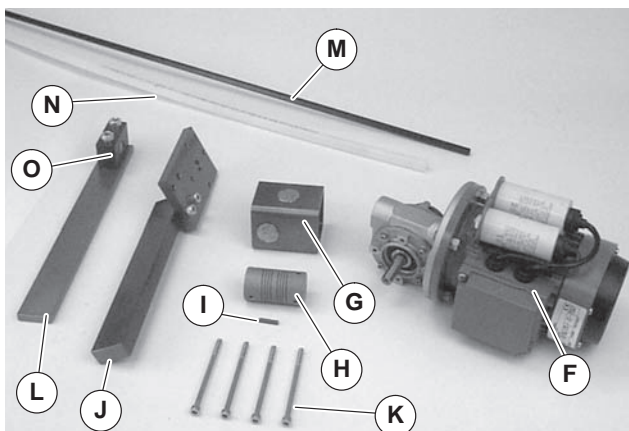
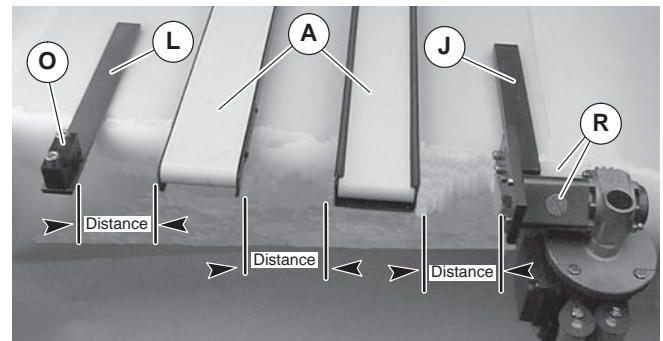

Figure 2
Figure 8
1. Gather components (Figure 2)
- Measure distance between motor mounting plate (Q) and bearing block (O).
- Cut hex shaft (Figure 2, item M) to measured distance plus 2-1/8" (54 mm).
- Align conveyors between gearmotor support assembly (Figure 8, item J) and bearing support assembly (L).
<p>Do not secure the conveyors (Figure 8, item A) to mounting surface.</p>
- Cut shaft cover (Figure 2, item N) into pieces to match each distance (Figure 8) minus 1/16" (1.5 mm).
- Remove inspection plugs (Figure 8, item R).